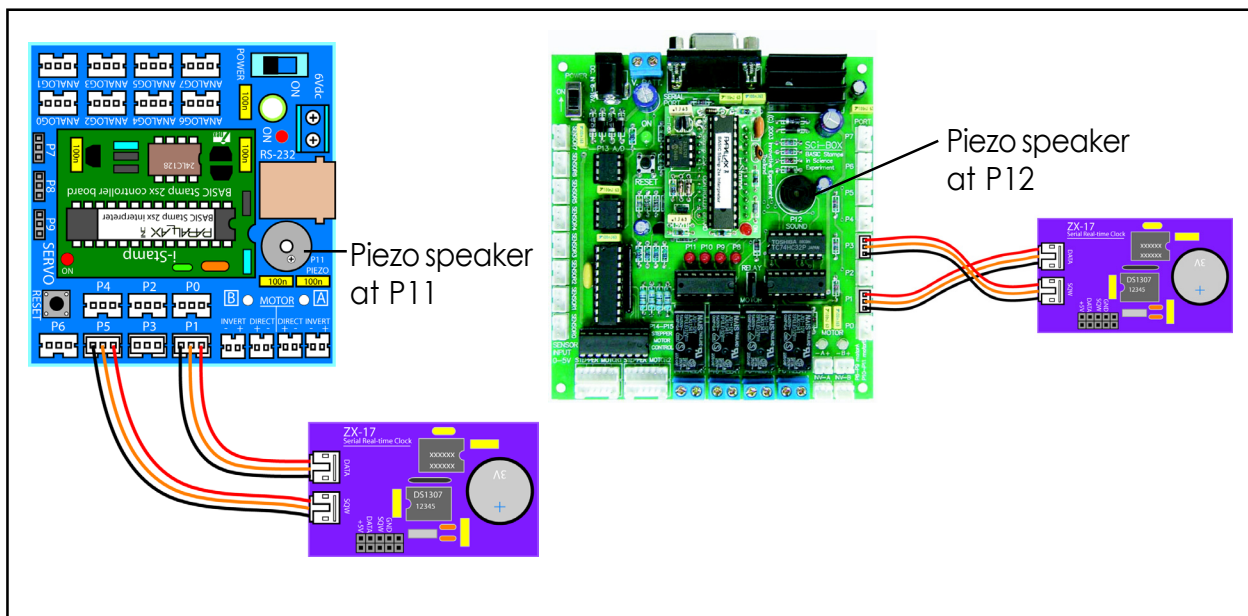

Figure 5 : SQW output interface to testing with BASIC Stamp2SX board
- 4.1 Connect ZX-17 to Stamp-BOX or Sci-BOX following figure 5